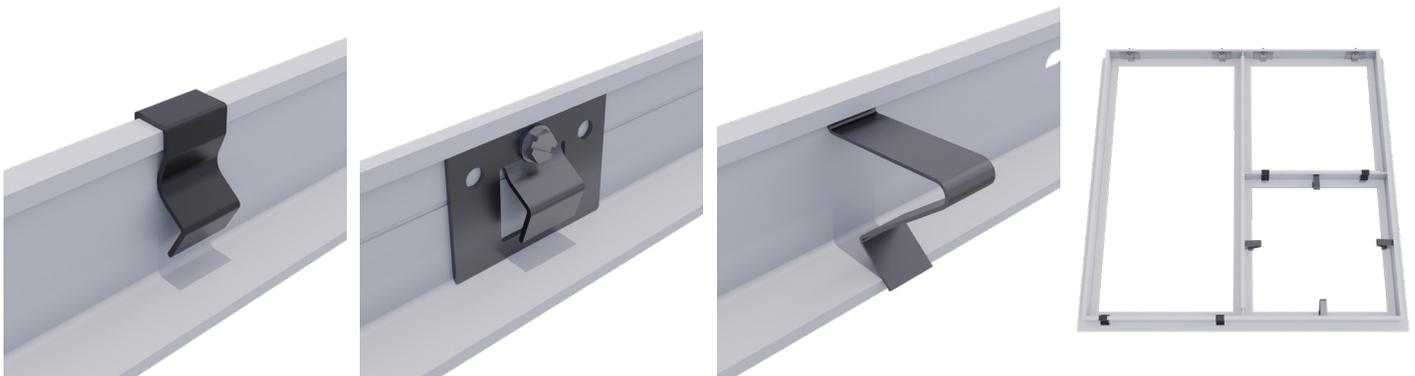

Figure 19: Ceiling Access Clips Installation
- For cross tees, or sections where there are back-to-back panels, install ceiling install ceiling access clips (Part Number 026002-002) along two opposite sides of where the panel will be installed. To install hold down clips, press the clips on the top of the tee until they snap in place (no tools required). Refer to Figure 19 for details.
- For panels requiring room-side accessible that located between/beside diffuser units, install one-sided ceiling clips (part number 026002-003) by holding them in place along the half tee and screwing it in using provided hardware. Refer to Figure 19 for details.
- For panels not requiring room-side access that are located between/beside diffuser units that do not require room side accessibility, install Universal Hold Down Clips (Part Number 026001-001) by hooking them under the ceiling tee. Refer to Figure 19 for details.